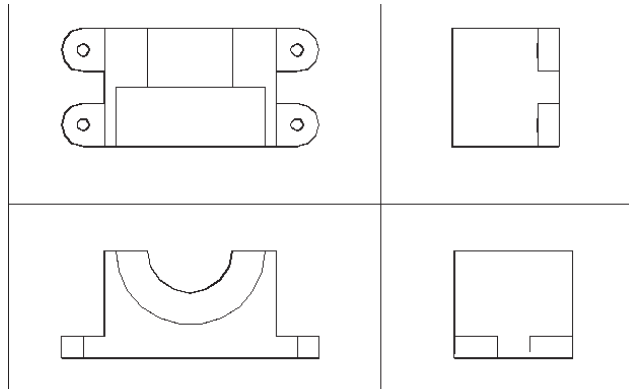

Figure 11–9
11. Select two points to define the boundaries of the viewport, as shown in Figure 11–9.